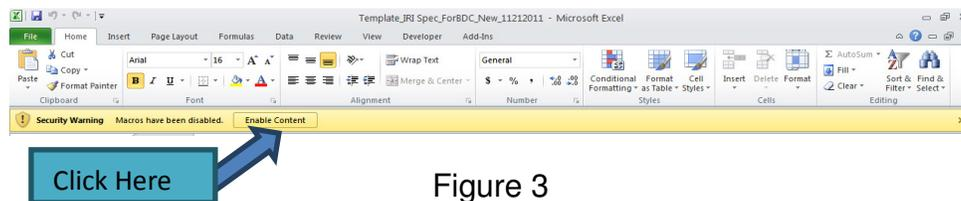

Figure 3
(A) If you see the Ribbon with **security Warning** as shown in Figure 3. Click **“ENABLE CONTENT”**.